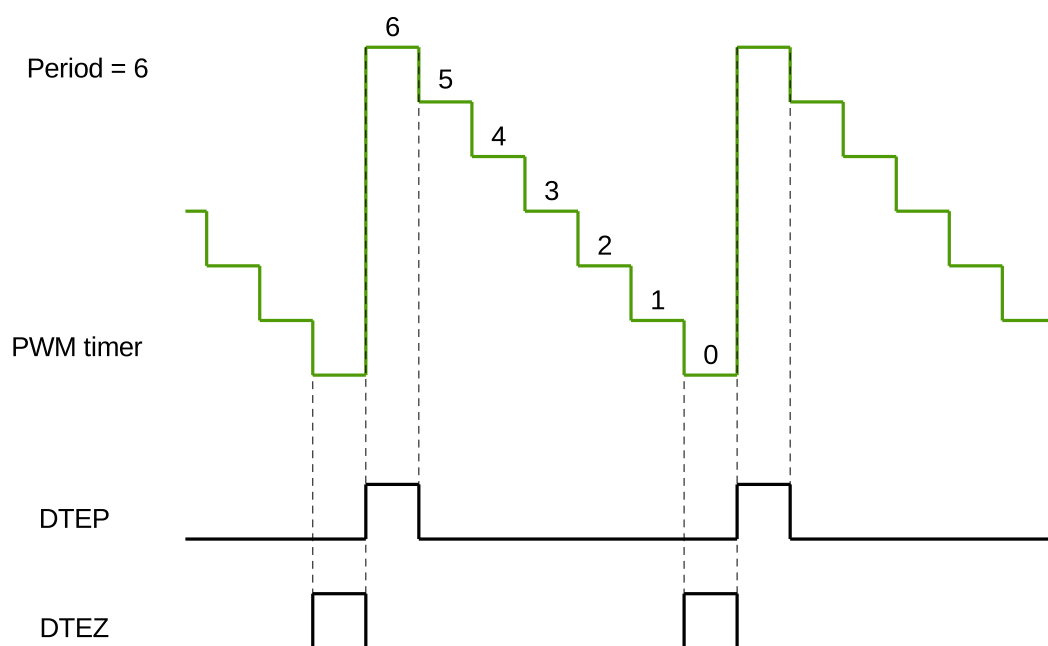

Figure 76: DTEP and DTEZ Generation in Count-Down Mode
2. DTEP and DTEZ do not happen simultaneously. When the PWM timer is in count-down mode, DTEZ will always happen one cycle earlier than DTEP, as demonstrated in Figure 76, so their action on PWM signals will not interrupt each other. When the PWM timer is in count-up-down mode, DTEZ will not occur.